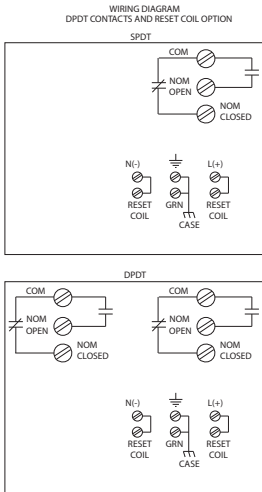

Figure 10: Wiring connections
The switch provides a single SPDT relay or optional double SPDT relays, allowing use as a DPDT device. When a reset / startup delay coil is specified (optional on 5550; standard on 5550G), suitable wiring terminals are also available. Refer to Figure 10 for wiring terminal assignments.
4.2.4 Connect a continuity tester or ohmmeter across COM & NOM OPEN terminals (refer to Figure 10). This will allow you to visually confirm when the normally open relay contacts close, indicating the switch has tripped. This is also true for COM & NOM CLOSE, the normally closed relays contacts open when tripped.
When a reset coil is specified (standard on 5550G, optional on 5550 where ordering option D = 1, 2, 3, or 4), an electrical solenoid mechanism is installed that allows remote reset of the switch when in its tripped position, and initiation of a startup delay when in its untripped position. To activate these features, the rated voltage must be applied to the reset coil wiring terminals (refer to Figure 10). The reset function requires only momentary application of voltage. The startup delay function requires continuous application of voltage for the duration of the factory pre-set time delay (approximately 20-30 seconds).
This feature allows remote reset of the switch from its tripped position. To activate, momentarily apply the rated voltage across the appropriate terminals (refer to Figure 10), taking care to observe the polarity. The application of this voltage will energize the solenoid mechanism, extending its plunger and resetting the switch to its untripped position. Once the solenoid has reset the switch, voltage can be removed. The switch will remain in its untripped position until sufficient acceleration trips it.